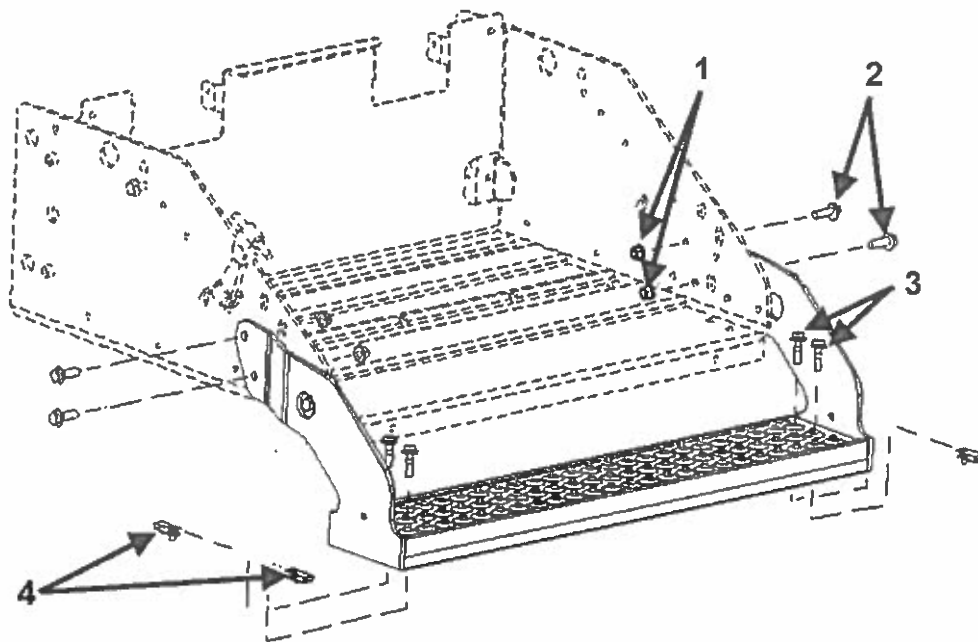

Figure 1 Battery Box Step
2. Remove the step from the mounting brackets and save the bolts for reuse (see Figure 1). If the step is missing, proceed to step four.